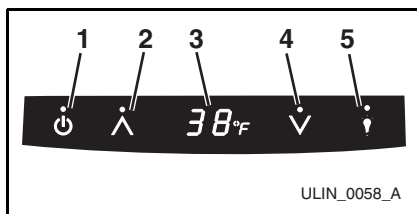

Figure 3
To turn the unit on or off, touch and hold the POWER icon (Figure 3, 1) on the display panel for approximately ten seconds until the °F symbol flashes and release.
- The display (Figure 3, 3) will show the unit set-point temperature (38°F) when the unit is on and will show OFF when the unit is off.
The LIGHT icon (Figure 3, 5) on the control panel is used to control an additional lighting function. The blackout/Sabbath mode (not Star K certified) will turn the interior lights and display (Figure 3, 3) off for a preset 36-hour period.
1. Touch and hold the LIGHT icon (Figure 3, 5) for ten seconds and release (the °F symbol will flash briefly at the end of the ten second period).
2. The interior light and control display (Figure 3, 3) will go dark for the next 36 hours.